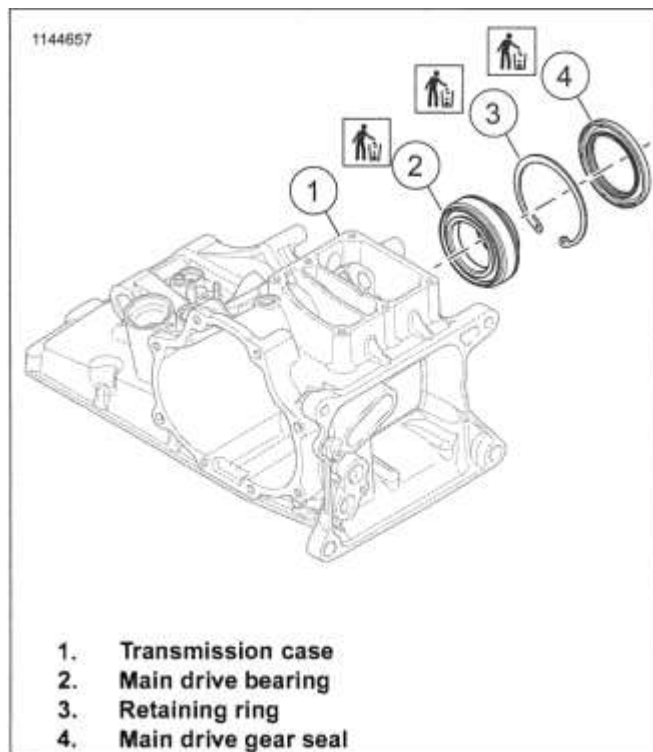

Figure 5-63. Main Drive Bearing
2. See Figure 5-63. Remove and discard main drive gear oil seal (4).
3. Remove and discard retaining ring (3).
4. Remove and discard main drive gear bearing (2).
1. See Figure 5-63 and Figure 5-65. Install main drive gear bearing.
See Figure 5-63. Replace mainshaft seal while main drive gear is installed.